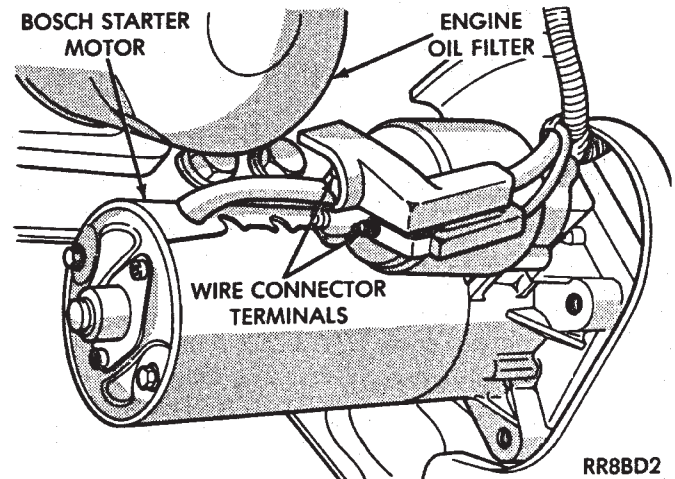
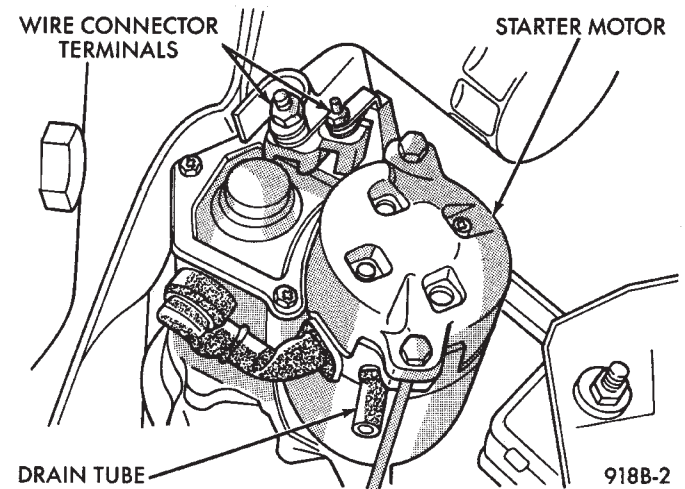

Fig. 5 Wire Terminal Connections—Bosch Starter
Fig. 6 Wire Terminal Connections—3.0L Engine—Nippondenso Starter
- (3) Remove two wire connector terminal nuts and remove connector (Bosch, Fig. 5) (Nippondenso, Fig. 6 or 7).